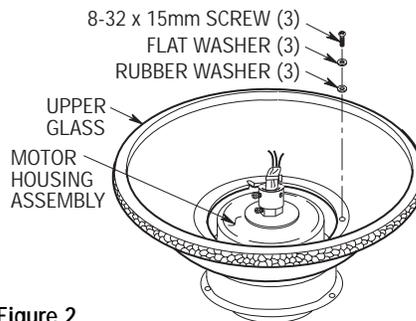

Figure 2
- 1. Place the motor housing assembly on a flat surface with the top of the motor facing upwards. Place the upper glass over the motor housing assembly, aligning the slots in the upper glass with the mounting holes in the housing flange (Figure 2). Install three 8-32 x 15mm screws, flat washers, and rubber washers (supplied) to secure the assembly.